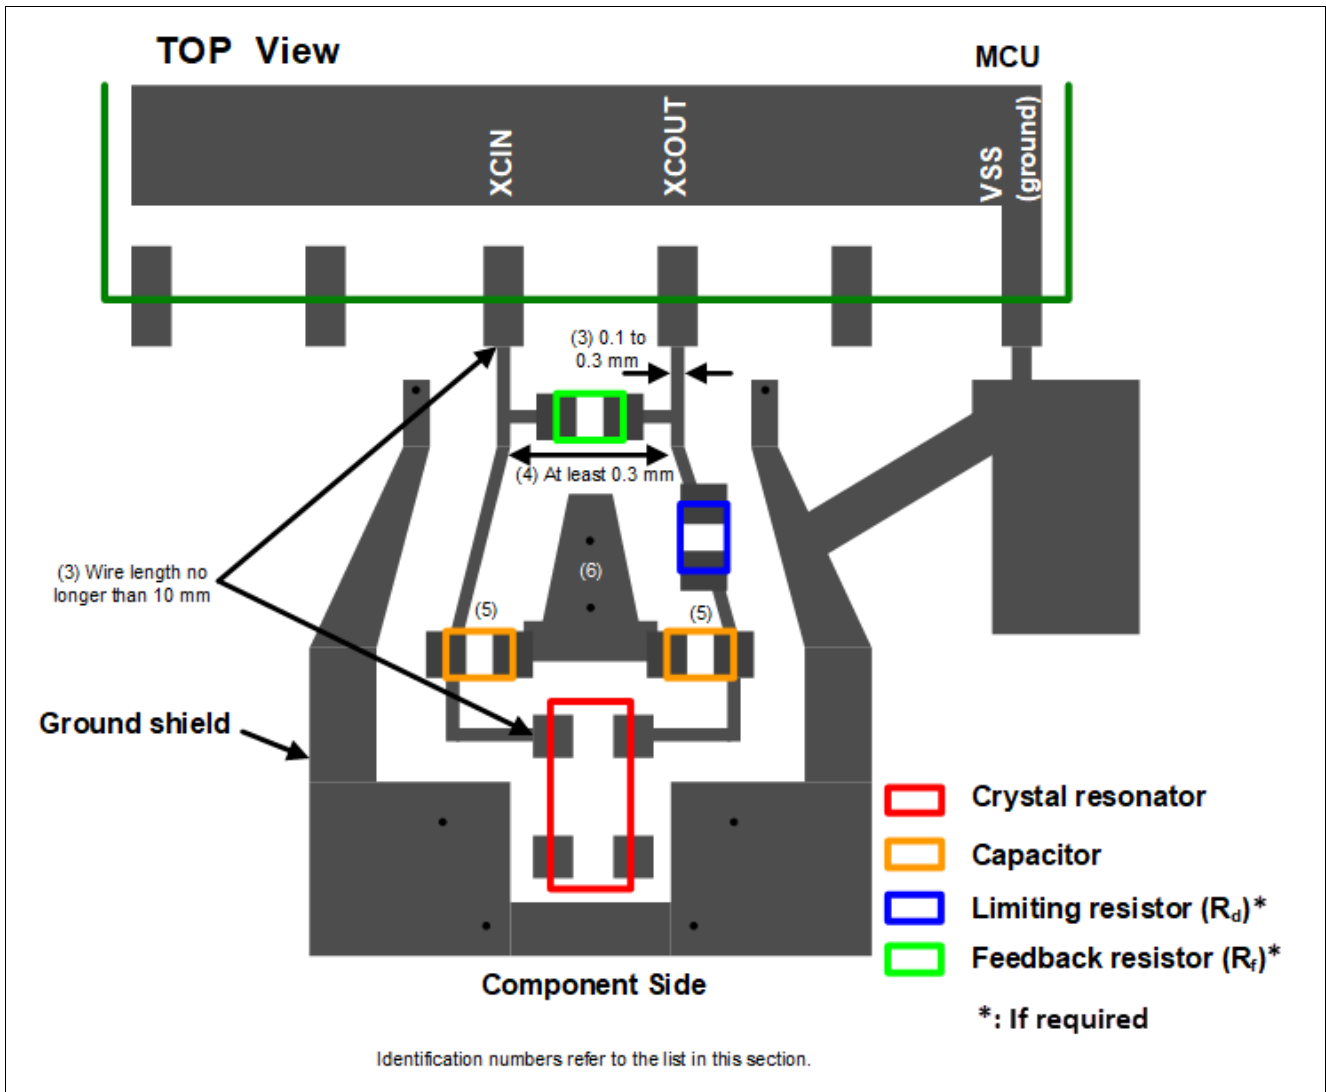
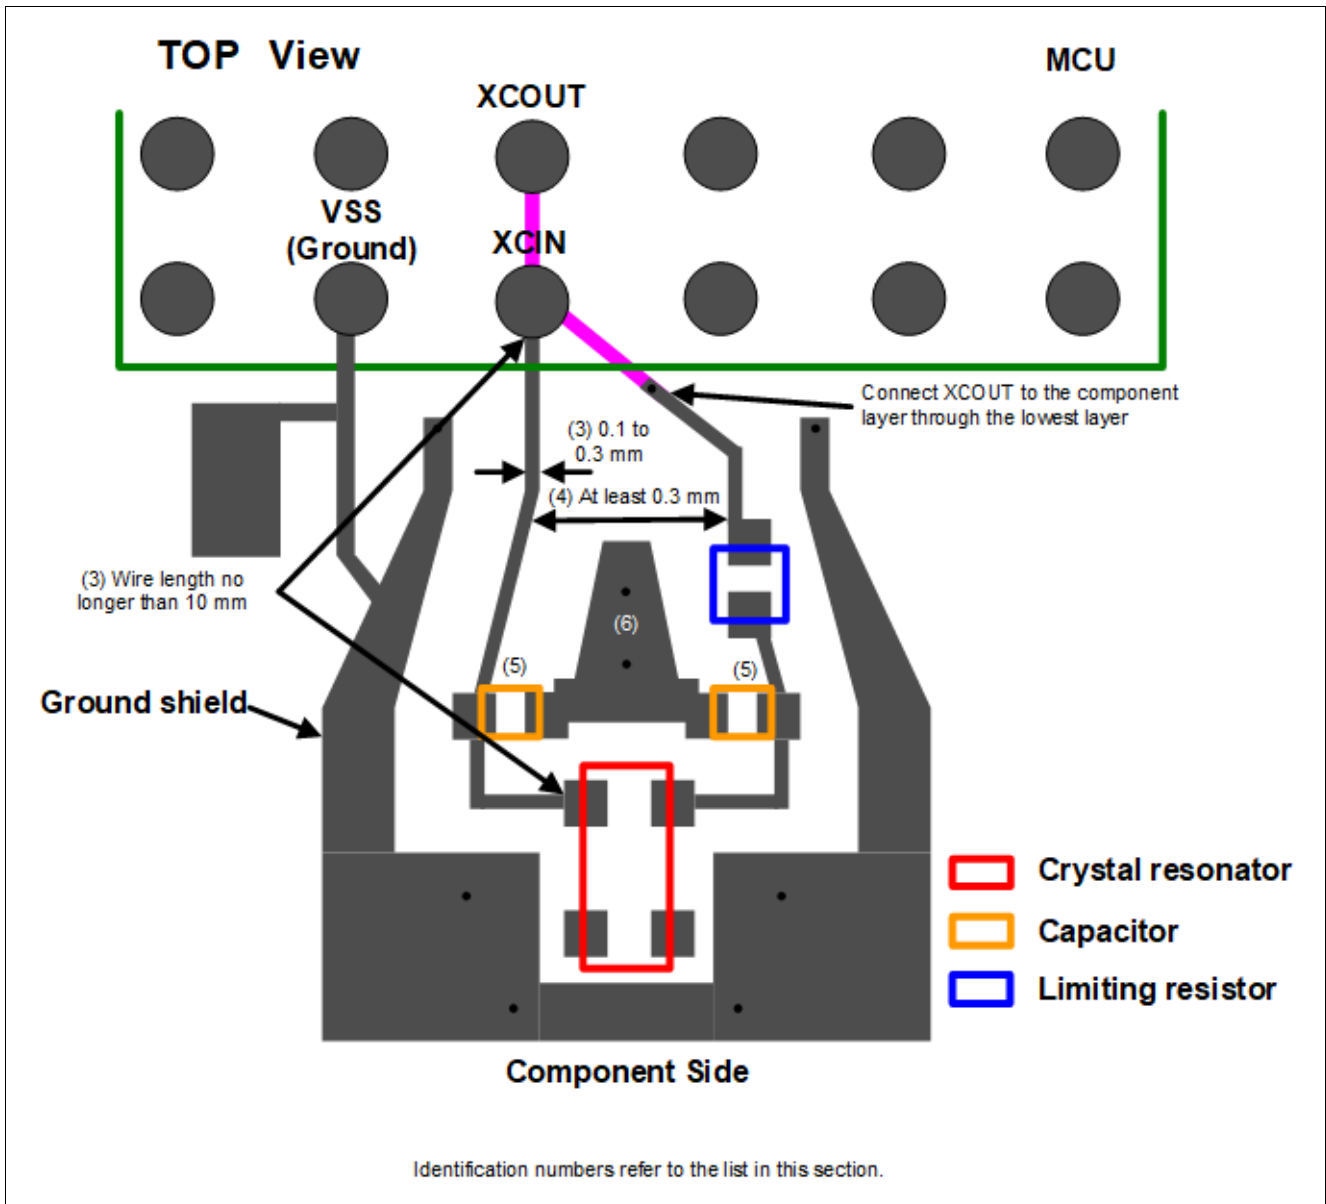
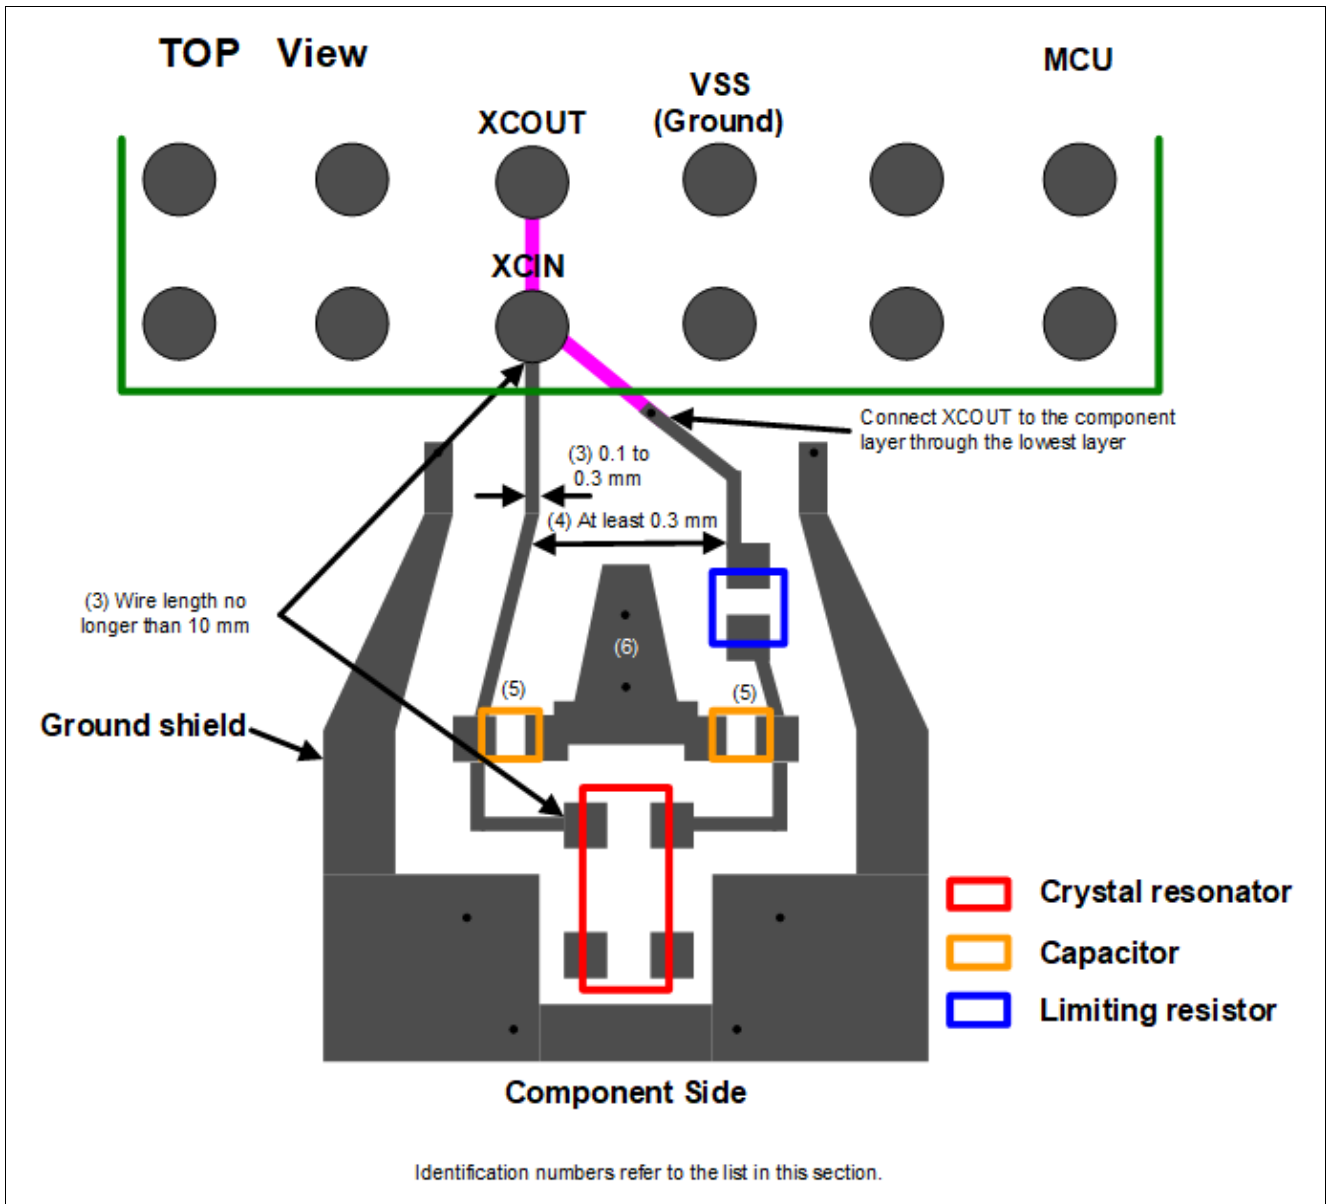
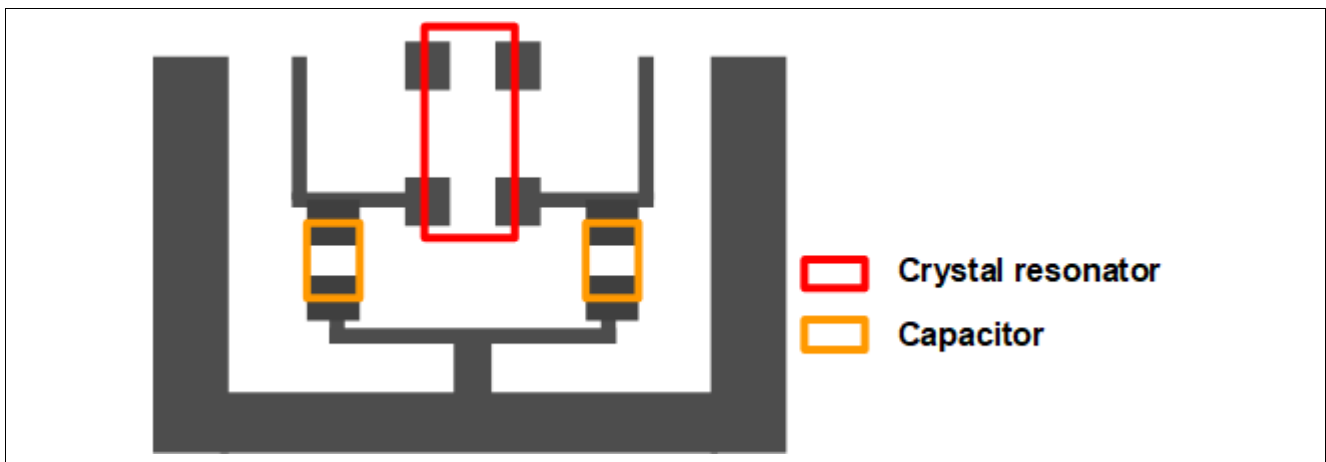

Figure 5. Example of Preferred Placement and Routing for XCIN and XCOU, LQFP Packages
Figure 6. Example of Preferred Placement and Routing for XCIN and XCOUT, LGA Packages
Figure 7. Example of Preferred Placement and Routing for XCIN and XCOU, BGA Packages
Figure 8. Example of Alternate Placement and Routing for XCIN and XCOU
The following list describes points on routing for XCIN and XCOOUT. Figure 5, Figure 6, and Figure 7 show examples of preferred trace routing for XCIN and XCOOUT. Figure 8 shows an alternate example of trace routing for XCIN and XCOOUT. Identification numbers in the Figures refer to this list.
5. Connect external capacitors as close together as possible. Connect the traces for the capacitors to the ground trace (hereinafter referred to as the “ground shield”) on the component side. For details on the ground shield, refer to section 2.2.2. When the capacitors cannot be placed using the preferred placement, use the placement shown in Figure 8.